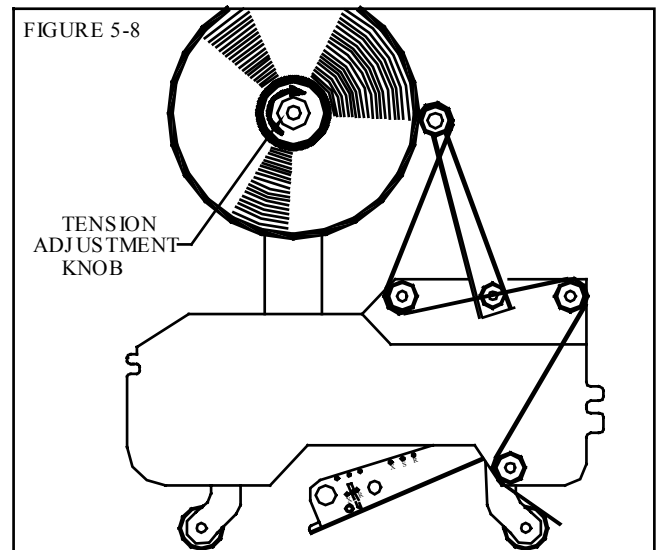

FIGURE 5-8
2. To correct this problem, increase the spring tension and tape hub friction. To do this, turn the tape hub tension adjustment knob 'clockwise'. This will increase the tension and provide more drag. [Fig 5-8]